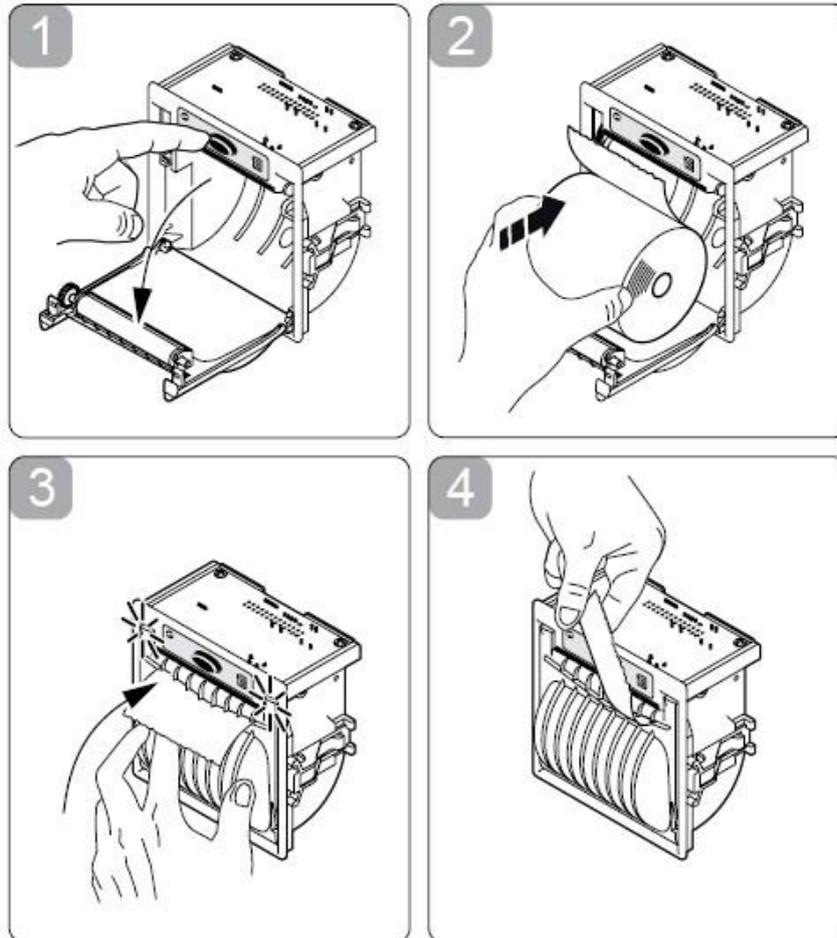

Fig. 3
2. Press the OPEN button to open the printer cover as shown (see Fig. 3/1). Handle the paper cutter carefully so as not to cut your hand.
3. Place the paper roll making sure it unrolls in the proper direction as shown (see Fig. 3/2).
5. Hold the loose end of the paper with one hand and re-close the cover with the other hand as shown (see Fig. 3/3) the printer cover is locked.
6. Tear off any excess paper using the jagged edge (see Fig. 3/4).